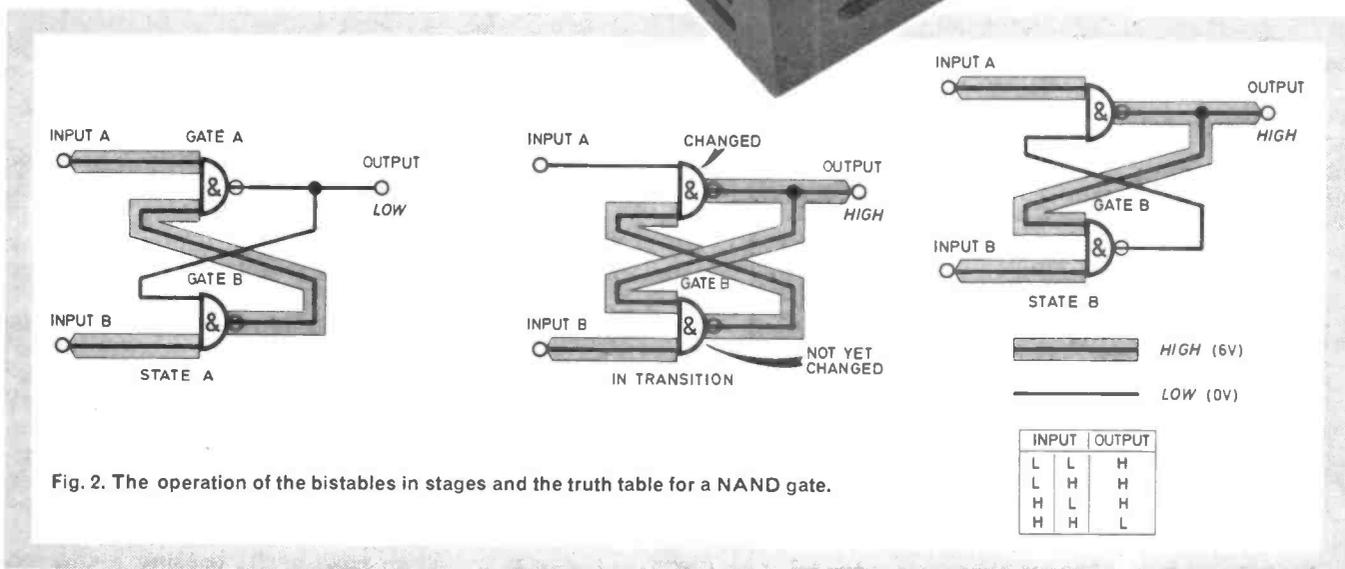

Fig. 2. The operation of the bistables in stages and the truth table for a NAND gate.
As can be seen from Fig. 2 last month, the inclusion of the short-circuit protection network allows the power slaves to safely handle a wide range of speaker loads, but will only deliver full output (100W) for a single value load i.e. 4 or 8 ohms.
The realisation of these impedances can be achieved by many different speaker impedances connected in series, parallel and series/parallel arrangements. Now heavy duty speakers designed for pop and disco work are generally only available in 8 or 15 ohms, so only these will be considered in the suggested arrangements in Fig. 2. The total resulting impedances in some cases (c), (e), (g), (h) and (i) are slightly below the nominal values of output load (4 and 8 ohms), but the resulting reduction in maximum output power is unnoticeable to the ear.
**Fig. 2.** Arrangements of 8 ohm and 15 ohm loud-speaker drive units to produce suitable systems for the two versions of the power slave; (a) to (e) are suitable for the 4 ohm version and (f) to (l) are suitable for the 8 ohm version. The total load as seen by the slave amplifier in each of these arrangements is: (a) 4 ohms, (b) 4 ohms, (c) 3.75 ohms, (d) 4 ohms, (e) 3.75 ohms, (f) 8 ohms, (g) 7.5 ohms, (h) 7.5 ohms, (i) 7.7 ohms.
There are four bistables in all and each bistable is built from two NAND logic gates. All the necessary gates are contained in two i.c. packages, IC1 and IC2. The action of these is best described with reference to Fig. 2.